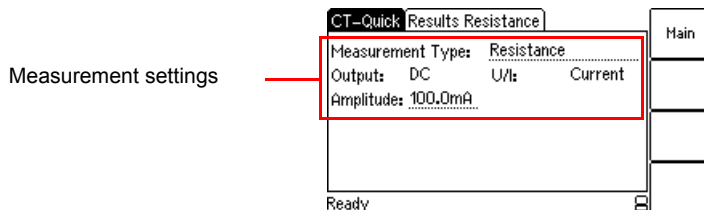

Figure 10-17: **CT-Quick** test card with settings for resistance measurement
3. Select the **Resistance** measurement type and set the amplitude of the DC output current appropriately. Refer to Figure 10-17.